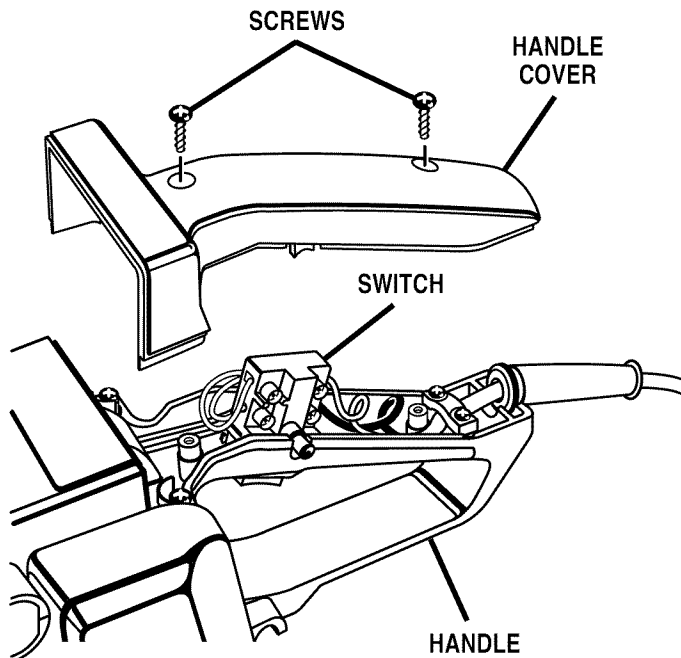

Fig. 12
See Figures 12 and 13.
- Remove the handle cover screws and handle cover. Note the locations of all wiring in the handle and how each connection is made to the switch. Connections and wiring position must be identical when installing new switch. See Figure 12.
- Arrange the wiring in the handle so that it will not be pinched or contact screws when the handle cover and screws are replaced, then position the switch in place. See Figure 12.
- Place the cord and bend relief in their correct locations. See Figure 12.